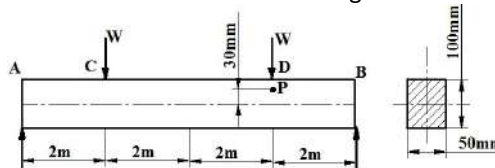

Figure 38
19. When a simply supported beam is subjected to the loads as shown in the Figure 38. The longitudinal strain induced at a point P is found to be 500×10^{-6} . Determine the magnitude of W. Take $E=200\text{GPa}$.